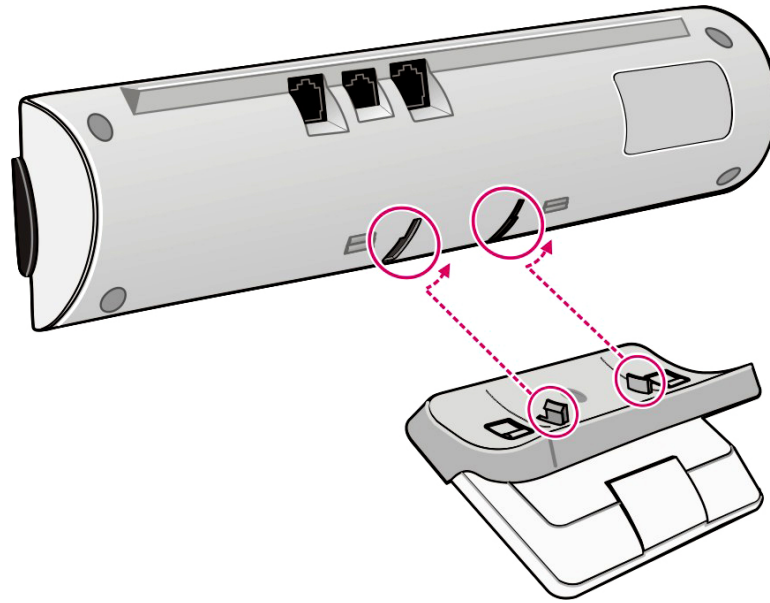

Figure 4.5 Mounting SMT-R2000 on a Table
- 6) Two screw holes are located at the bottom surface of SMT-R2000. With two hands, match the two holes of the SMT-R2000 with the screws on the concrete wall, and pull the SMT-R2000 downwards. For information on how to install a wall bracket into SMT-R2000, refer to Figure 4.5. Stand the support shown in Figure 4.5 and install the support into SMT-R2000 as shown in the figure below to mount SMT-R2000 on a wall: